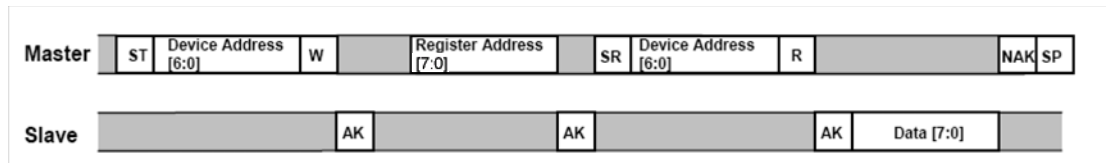

Figure 7. Single Byte Read - The Master is reading one address from the MMA7456L
The MMA7456L has an 10-bit ADC that can sample, convert and return sensor data on request. The transmission of an 8-bit command begins on the falling edge of SCL. After the eight clock cycles are used to send the command, note that the data returned is sent with the MSB first once the data is received. Figure 7 shows the timing diagram for the accelerometer 8-bit I²C read operation. The Master (or MCU) transmits a start condition (ST) to the MMA7456L, slave address (\$1D), with the R/W bit set to "0" for a write, and the MMA7456L sends an acknowledgement. Then the Master (or MCU) transmits the 10-bit address of the register to read and the MMA7456L sends an acknowledgement. The Master (or MCU) transmits a repeated start condition (SR) and then addresses the MMA7456L (\$1D) with the R/W bit set to "1" for a read from the previously selected register. The Slave then acknowledges and transmits the data from the requested register. The Master does not acknowledge (NAK) it received the transmitted data, but transmits a stop condition to end the data transfer.